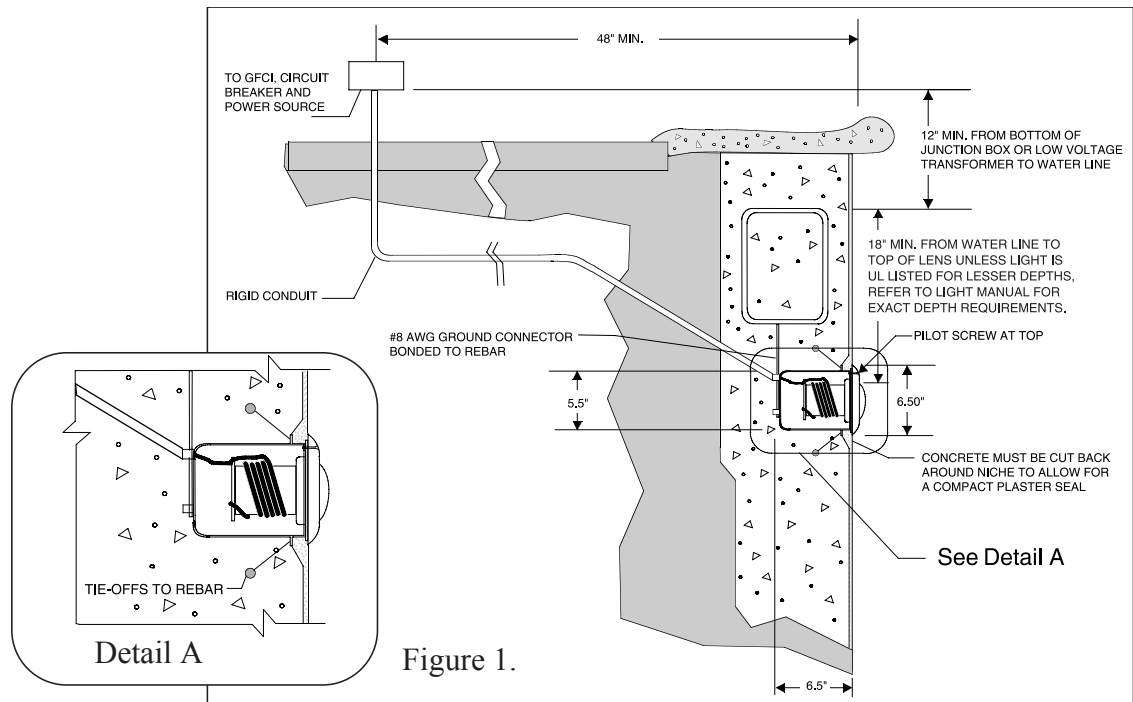

Figure 1.
- The junction box or the low voltage transformer is located at least 12 inches above water level and at least 48 inches from the edge of the pool, see Figure 1 below.
- The light fixture and all metal items within five (5) feet of the pool must be properly electrically bonded.
- The niche must be properly installed so the pilot screw hole is at the 12 o'clock position and the top edge of the Underwater Light's lens is at least 18 inches below the surface of the water in the pool, see Figure 1. This requirement may be less than 18" if the fixture is installed in an area of the swimming pool that is not used for swimming and the lens is adequately guarded to keep any person from coming in contact with the lens. Consult your local codes and ordinances and the National Electrical Code (NEC).
The niche is properly electrically bonded and grounded using the No. 8 AWG ground connector located at the rear of the niche, see Figure 1.
7. If pool surface is to be plastered, you must allow proper concrete cut-back for plaster thickness. Finished concrete surface must be cut-back behind the niche flange, see Detail A of Figure 1. Finished area surrounding niche must be flat and flush with the front face of the niche. This ensures a snug fit between light and wall.